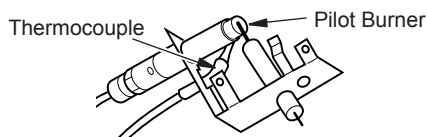

Figure 20 - Pilot
8. Light pilot burner with a match, (see Figure 20).